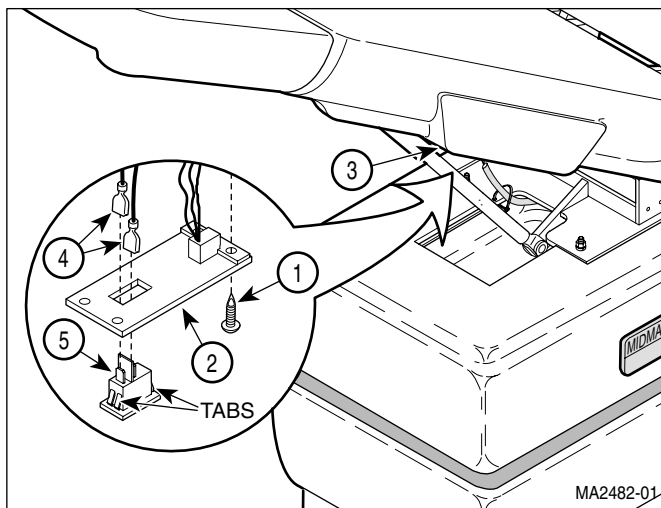

Figure 4-4. Control Disable Switch
- (2) Remove four screws (1, Figure 4-4) and partially separate control cover (2) from plastic seat section (3).
- (3) Disconnect two wires (4) from control disable switch (5).
- (4) Press on four tabs of control disable switch (5), while simultaneously pulling control disable switch out of control cover (2).